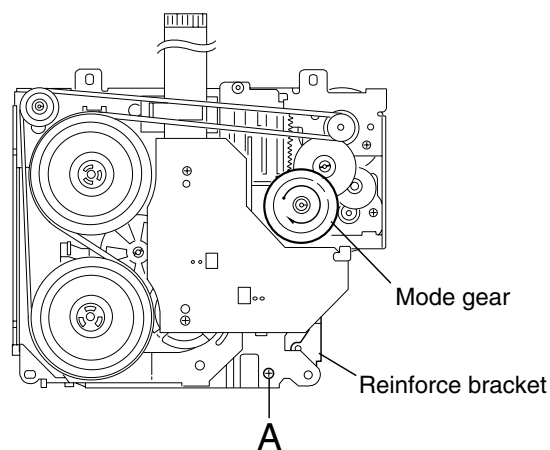

Fig.1
REFERENCE: Prior to performing the following procedures, turn the mode gear on the bottom of the body until the respective part comes to the EJECT position (Refer to Fig.1).
■ Removing the reinforce bracket (See Fig.1 and 2)